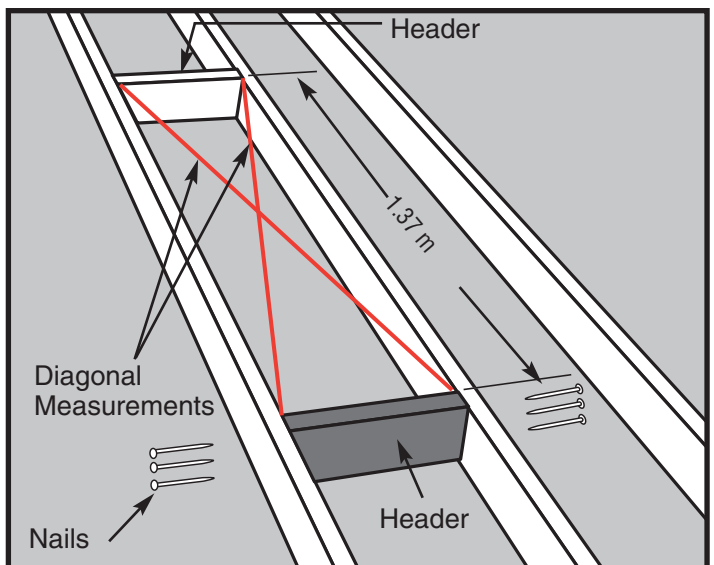

Figure 13 How to check for square
- STEP 5.** Position the second header 1.37 m from the first one and repeat Step 4 (See Figure 13).
- STEP 6.** The frame for the rough opening requires four sides. The headers make up two of those sides. If your ceiling joists are spaced so that they make up the other two sides of the rough opening, check the opening for squareness by measuring across the diagonals. The measurements should be within 3.2 mm to be considered squareness (See Figure 13).